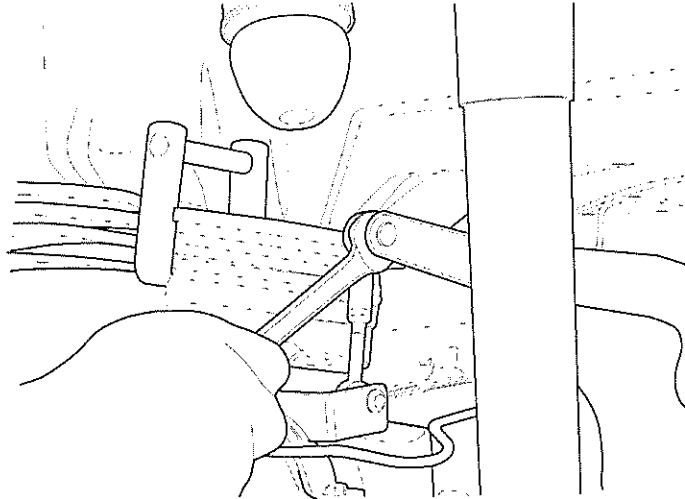

Fig 15 Adjusting lever support rod (non ABS variants only)
- 8.9 Press off joint rod from adjusting lever using spanner (see Fig 15) – non ABS variants only.